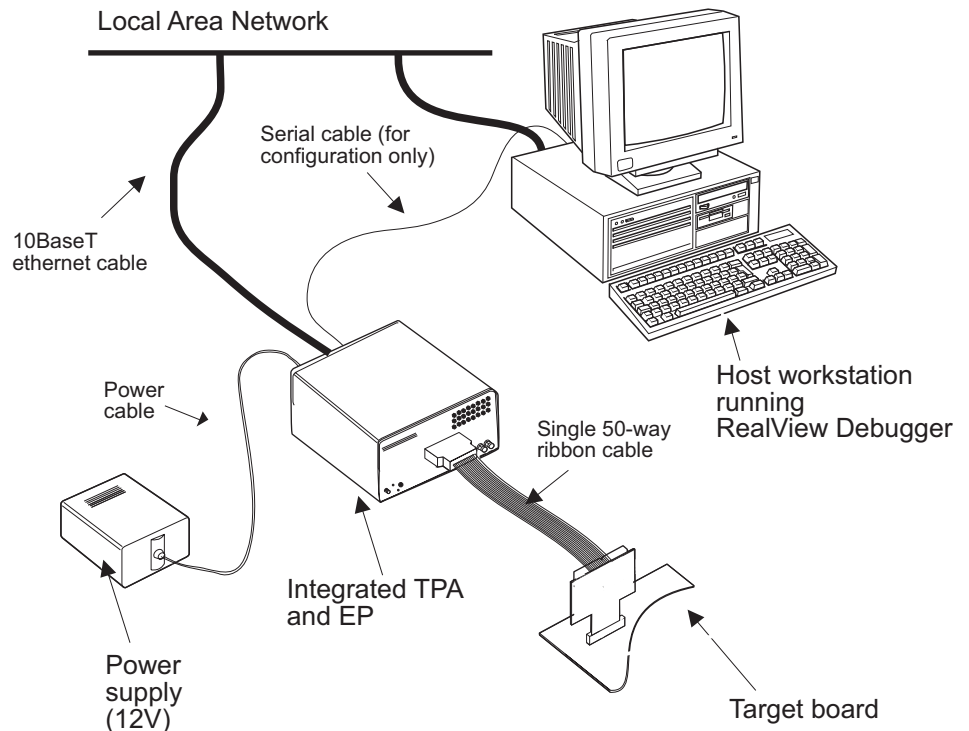

Figure A-5 Agilent Trace Port Analyzer and Emulation Probe
Figure A-5 shows the configuration using E5904B components.
1. Connect the Agilent EP/TPA to the local area network and to the target interface board. Connect the target interface board to the buffer board. These connections are shown in Figure A-5 on page A-11.